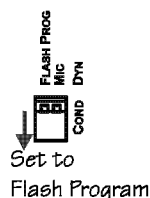

Figure 4: Setting the DIP to Flash Program
3. On the rear panel, set the FLASH PROG DIP to Flash Program (by setting the FLASH PROG DIP downwards, see Figure 4).